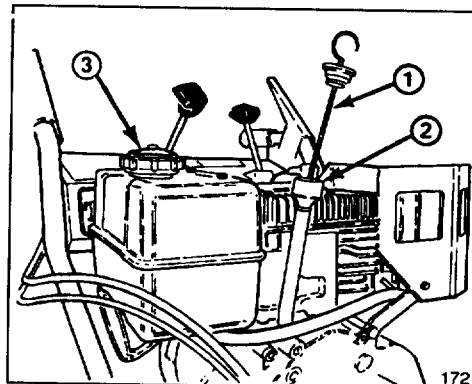

Figure 11
(Fig. 11)
1. Clean area around the fuel tank cap (Fig. 11). Remove cap from fuel tank. Using unleaded, regular gasoline, fill tank to within 1/4" to 1/2" (6 to 13 mm) from the top of the tank, not into the filler neck. This space is for expansion of fuel. Do not fill tank full. Reinstall fuel tank cap.